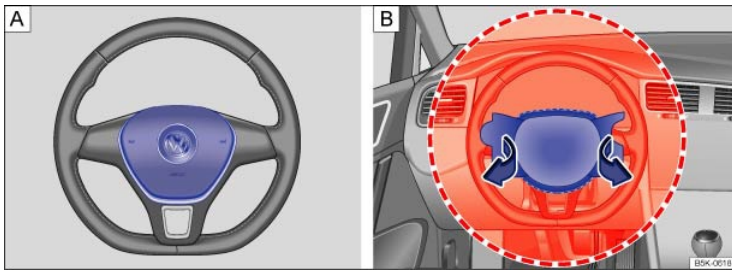
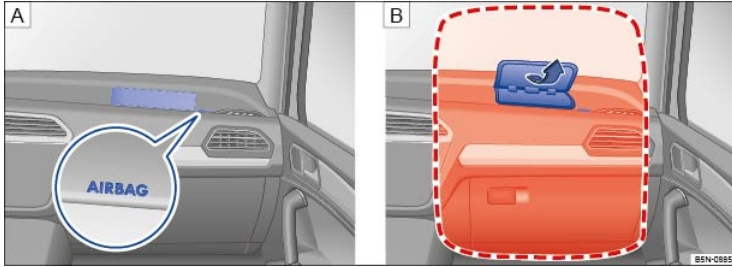

Fig. 32 Location and deployment zone of the driver front airbag.
Fig. 33 Location and deployment zone of the front passenger front airbag.
The vehicle is equipped with an Advanced Airbag System in compliance with the United States Federal Motor Vehicle Safety Standard (FMVSS) 208 or the Canada Motor Vehicle Safety Standard (CMVSS) 208 applicable at the time your vehicle was manufactured. The airbag for the driver is in the steering wheel hub ⇒ Fig. 32 **A** and the airbag for the front passenger is in the instrument panel ⇒ Fig. 33 **A**. The general location of the airbags is marked AIRBAG.
The areas marked in red (dotted lines) ⇒ Fig. 32 **B** and ⇒ Fig. 33 **B** indicate the airbag deployment zone. Never place or attach accessories or other objects (such as cup holders, telephone brackets, note pads, navigation systems, large, heavy or bulky objects) on the doors, on the windshield, over or near the area marked in red (dotted lines).
- Never place accessories or other objects (such as cup holders, telephone brackets, notepads, navigation systems, or things that are large, heavy, or bulky) on the doors or attach them to the doors; never place them over or near the area marked AIRBAG on the steering wheel, instrument panel, or seat backrests, or between those areas and someone in the vehicle ⇒ Fig. 32 and ⇒ Fig. 33. Such objects could cause serious injury in a collision, especially if an airbag inflates.